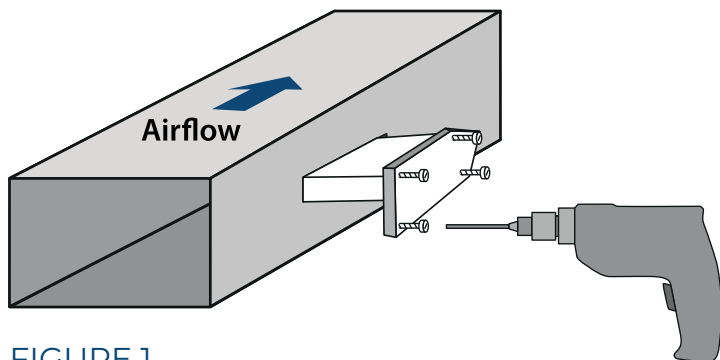

FIGURE 1
2. To mount the unit in a duct (See Figure 1):
- b. Trace a 5" by 1 ½" rectangle on the surface of the duct onto which you are mounting the ionizer. The unit has a gasket that forms a seal between the duct and the back of the control panel. **IMPORTANT:** Ensure that the ionizing needles are pointed downstream of the airflow. A directional arrow is located on the label to aid in unit orientation. Also note that the control panel is formed in the shape of an arrow. (See Figures 1 and 2)
- d. Screw the DM-18000 through the 5 mounting holes into the duct using sheet metal screws (See Figure 1).